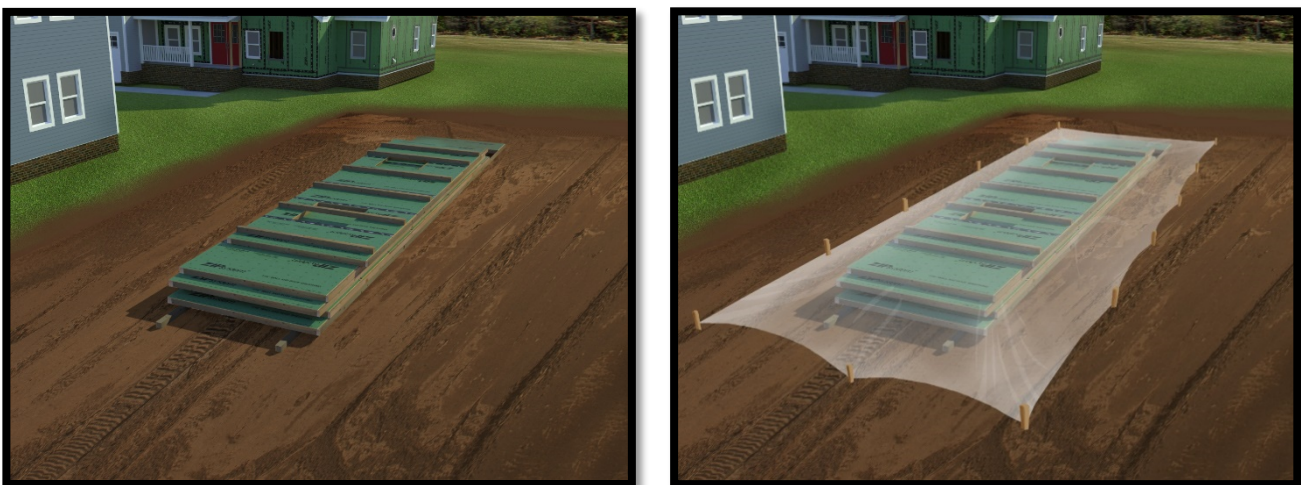

Figure 3: Wall sections stacked to prevent wall bowing, away from water drainage, and tarped for longer storage periods.
- *Site storage:* After panelized walls have arrived on the jobsite, it is important to store walls in in such a way that will prevent bowing of the entire wall assembly, as well as protecting the walls from absorbing ground moisture. Walls should *never* be stored directly on the ground, at the bottom of water drainage areas, or in any manner that exposes framing or sheathing to excessive moisture. It is recommended to store walls on stickers and cover loosely with waterproof protective material, with covers anchored on top of the wall but away from the sides and bottom to assure good air circulation (see Figure 3 below).